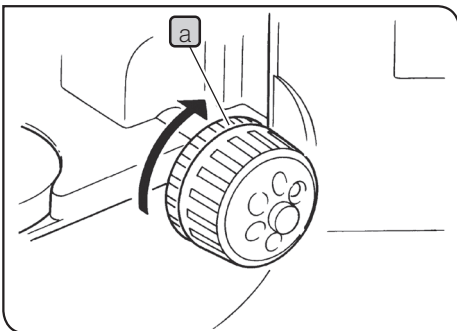

Fig.22
**4 Adjusting the coarse adjustment knob tension (Fig.22)**
The tension is too low if the stage drops by itself or focus is quickly lost after adjustment with the fine adjustment knob. In this case, turn the ring Fig.22 in the direction of the arrow to increase tension.